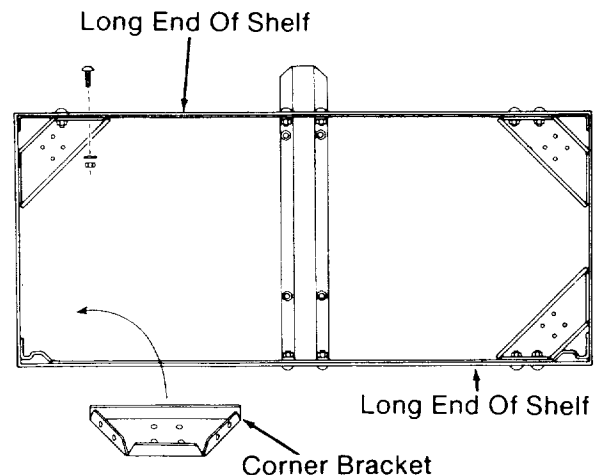

Fig. 48
7. Put a *corner bracket* in each corner of the *shelf*. (Figure 48)
8. Put two truss head bolts through the *shelf* and each *corner bracket* to hold the brackets in place. Only put bolts through holes in the long edges of the *shelf*, not the narrow ends, as shown. (Figure 48)